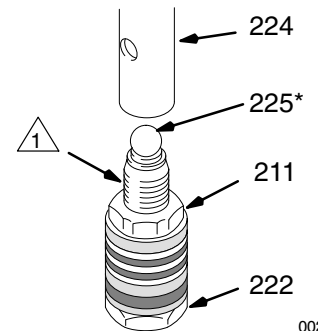
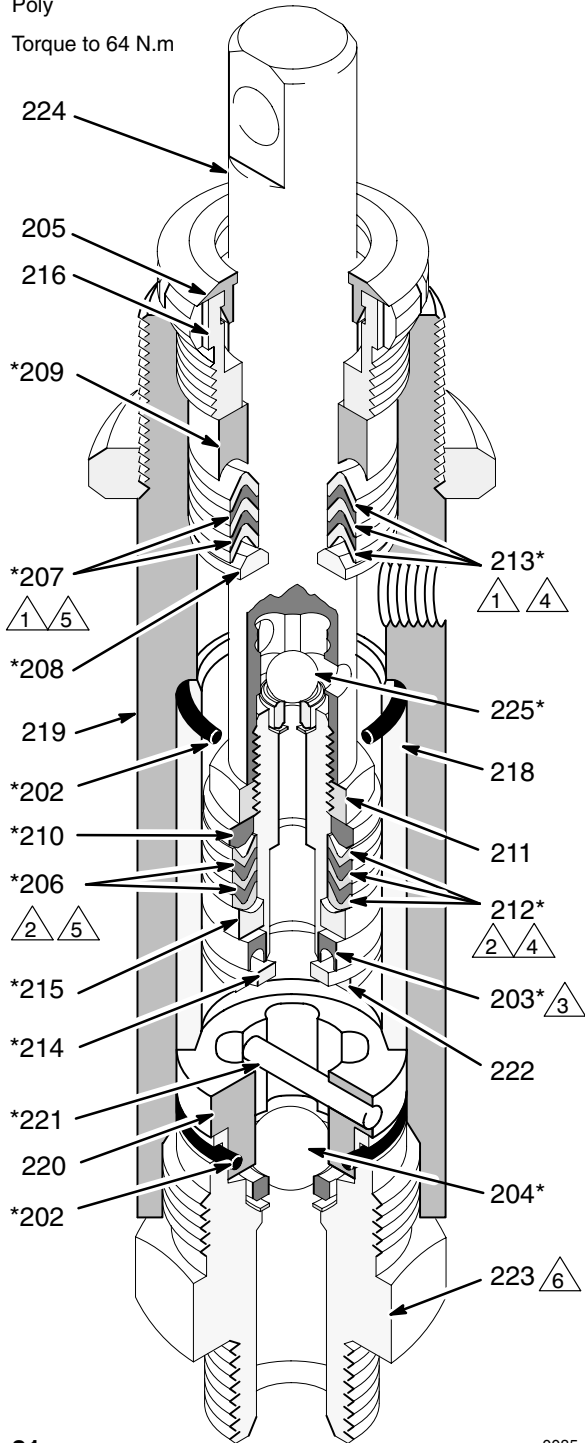

Fig. 29 0029
Fig. 31
NOTE: Alternate leather and plastic packings as shown in Fig. 31. Be sure the lips of the v-packings face the direction shown. Incorrect installation damages the packings and results in pump leakage.
- Check the piston rod (224) and the inside of the sleeve (218) for scoring or scratches. If these parts are damaged, new packings will not seal properly.
- Stack the piston packings onto the piston (222) as shown in Fig. 31.
- Tighten the piston nut (211) onto the piston to 0.7 N.m.
- Note the alignment** of the piston (222) to the piston nut (211) and maintain this alignment through Steps 5, 6 and 7.
- Apply **ONE** drop of adhesive, supplied with the repair kit, to the piston threads. Place the ball (225*) on the piston. Hand tighten the piston into the rod (224) just until the nut (211) contacts the rod. See Fig. 29. Place the flats of the rod in a vise.
- Tighten the nut (211) onto the rod (224) to 25 N.m. Use two wrenches to maintain the alignment as mentioned in Step 4.
- Stack the throat packings into the top of the cylinder (219). Install the packing nut (216) loosely. See Fig. 31.
- Assemble and install the intake valve. Use a **new** packing (202*). Tighten the valve to 64 N.m. See Fig. 31.